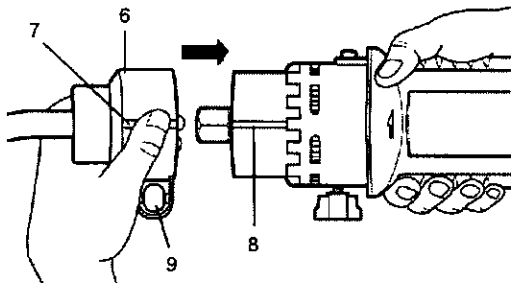

Fig. 3
6. Align the flex shaft connector cap (6) with the cutting tool motor housing (8) (see Fig. 3).